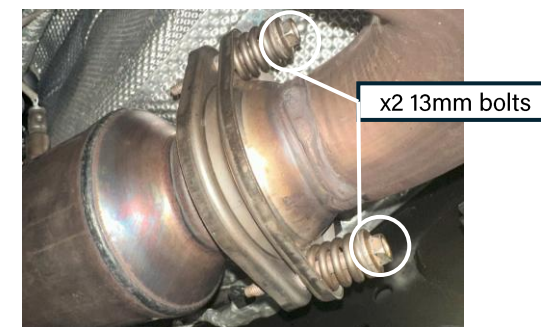

Figure 4f: Spring bolts at cross-over pipe (passenger side)
- Unbolt the passenger side cross-over pipe at the flange (Figure 4f)